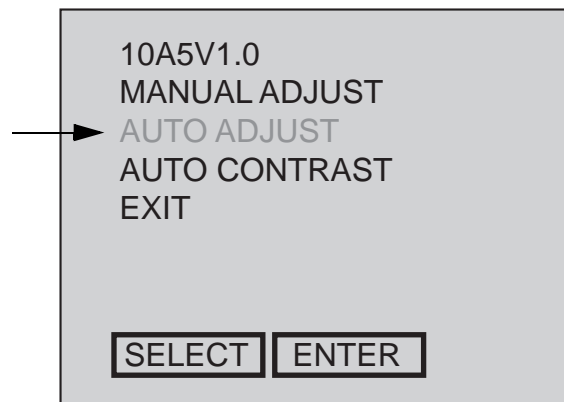

**Figure 6-18 Switch Location**
- 5.) Find out the notch to access OSD Switch located at backside of the LCD as shown in Figure 6-18. Press the switch inside of the notch.